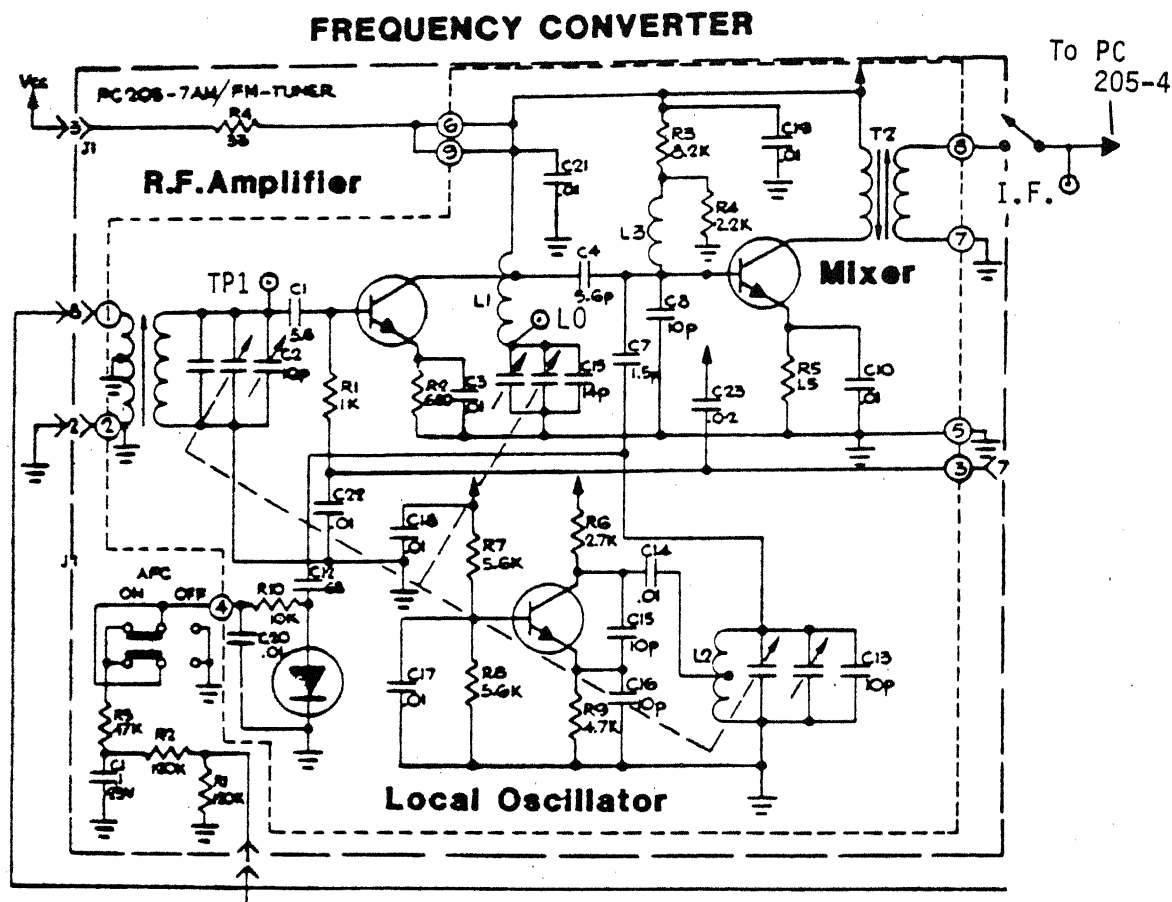

Figure 2
2. Set the DISPLAY control (2) one-quarter turn from its maximum CCW position. The DISPLAY control varies the length of time that the count is displayed.
3. Set the SENSITIVITY switch (3) to the PLUG-IN position. The SENSITIVITY switch selects the source of the input signal (test or plug-in) and the amount that the signal is attenuated if the signal is applied to the "FREQ A" jack.
5. Set FUNCTION switch (5) to the FREQ position. The FUNCTION switch selects the mode of operation (frequency or period).
6. The purpose of RESET switch (7) is to return the display to zero in order to start another count.
7. On the CV-1921/USM-207 FREQUENCY CONVERTER, set the FREQUENCY TUNING-MC switch (6) to 100. Notice that this switch selects frequencies from 100 to 500 MHz in increments of 50 MHz. You must know the approximate frequency applied before using this converter.
8. Set the DIRECT-HETERODYNE switch (8) to HETERODYNE. This position of the switch will mix the input frequency with 100 MHz and display the difference between the two frequencies. By adding the displayed frequency to 100 MHz, you have the frequency applied to the input jack.
9. Set the ATTENUATOR switches (9) and (10) to the 10V MAX position. These switches determine the amount that the signal applied to the converter will be attenuated.
10. (11) is the input connector to the CV-1921/USM-207 frequency converter.
11. (12) is the converter meter and registers the strength of the signal being applied to the counter. If the meter is positioned in the red or low green the signal is not strong enough to drive the counter.
12. Connect the BNC-BNC coaxial cable from the L.O. OUTPUT jack on the front panel of the NIDA 205 Transceiver to the INPUT jack on the CV-1921/USM-207 Frequency Converter. Study Figure 2 and notice that the oscillator in the transceiver is a Hartley type circuit.
You have now completed the Job Program on the Hartley oscillator. As you noticed in Figure 2, the Local Oscillator on the NIDA 205 Transceiver is a Hartley oscillator. You have seen how the frequency of the oscillator was changed so that the IF would remain the same. You have also learned how to measure frequency using the AN/USM-207 frequency counter. This same counter is used on many ships and stations throughout the U.S. Navy.